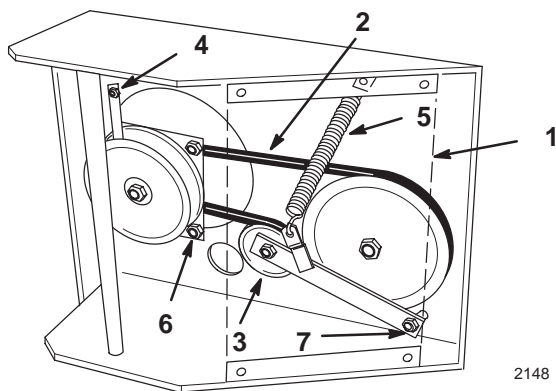

Figure 29
1. Raise the front of the machine and hold with jack stands. Remove lower shield (4) bolts.
3. Remove left front engine mounting bolt securing clutch retainer to frame (Fig. 29). Unhook retainer from clutch and remove retainer.
4. Unhook tension spring from side of frame (Fig. 29).
7. Torque pivot bolt to 47-54 N.m (35-40 ft. lb.) Install tension spring between idler arm and frame bracket (Fig. 29).
1. To adjust clutch, tighten or loosen lock nuts on flange studs (Fig. 29).